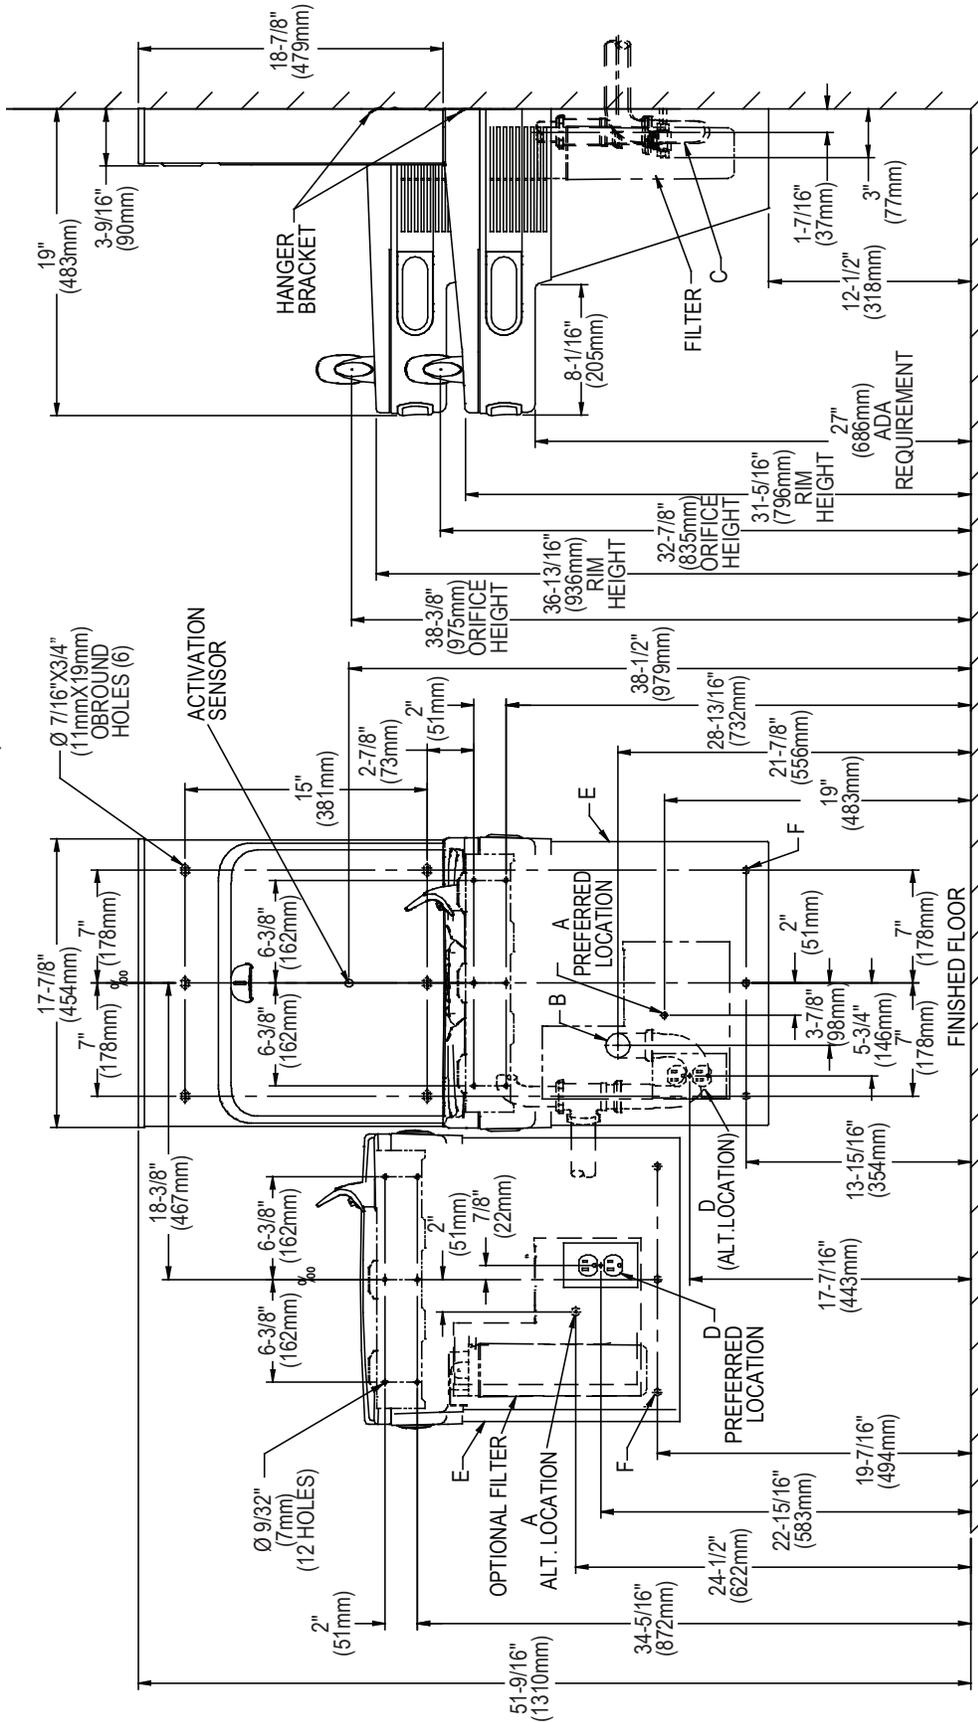

Fig. 2
- 1) Remove hanger brackets fastened to back of cooler by removing one (1) screw.
- 2) Mount the hanger brackets as shown in Figures 2, 3, 4 or 5.